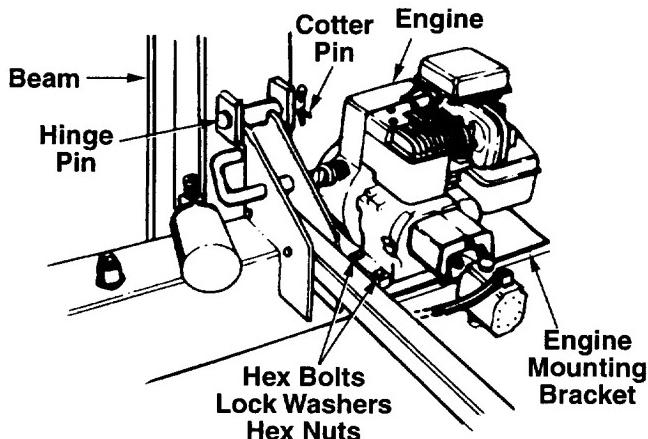

FIGURE 7.
- Remove the cotter pin and the hinge pin, located beneath the beam assembly. Move the reservoir tank assembly in position against the beam. See figure 7. Line up holes by lifting hitch end of assembly.
Place the engine and pump assembly in position on the engine mounting bracket as shown in figure 7. Secure with hardware found in the plastic bag. Insert hex bolts from the top. Secure with lock washers and hex nuts, tightening securely.